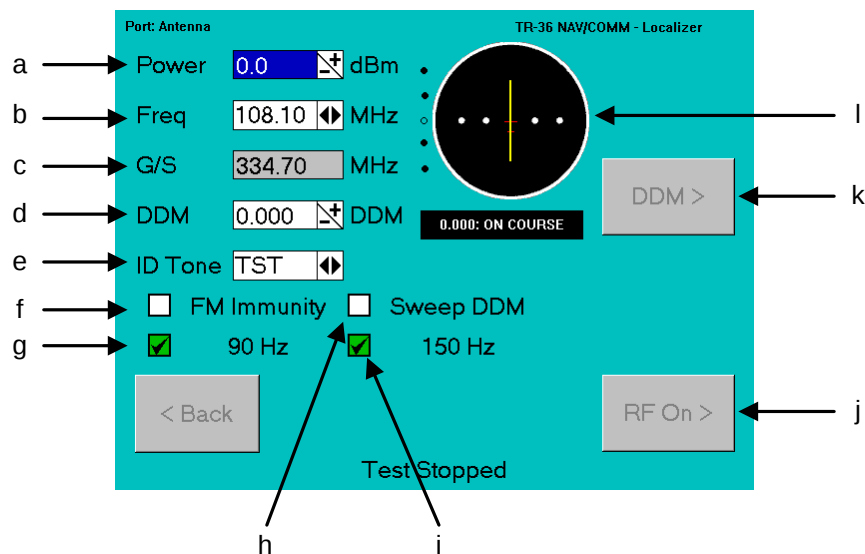

Figure 2-25. LOC Menu
5. The Test allows the operator to select the following settings (Table 2-5 and Figure 2-25).